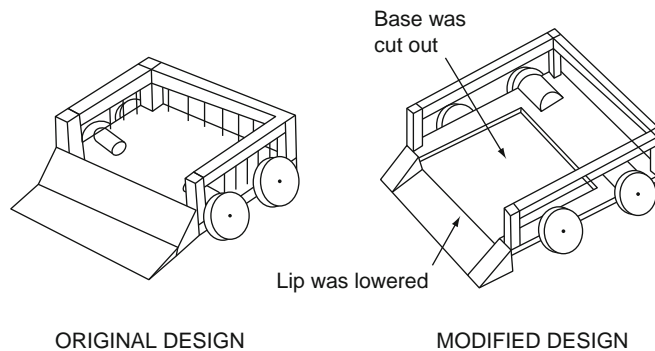
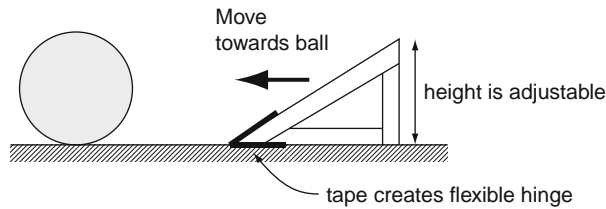

FIGURE 26.9 Design Modifications in Response to Experiments
FIGURE 26.10 Experiment Used to Determine the Optimal Wedge Geometry
As you may recall, the Wedge (shown on the left in Figure 26.9) was selected as the final concept. The original wedge design was dual purpose: (1) to lift and push the opponent's machine and (2) to allow balls to roll up into the holding bin above the moving platform.
There were concerns that the forward speed of the vehicle might not be sufficient to allow the balls to roll up high enough into the bin. Experiments (see Figure 26.10) were conducted to check this out. Results showed that the concerns were justified. Acceptable dimensions for the wedge and holding bin were established based on the results of the experiments. The modified concept is shown on the right in Figure 26.9.